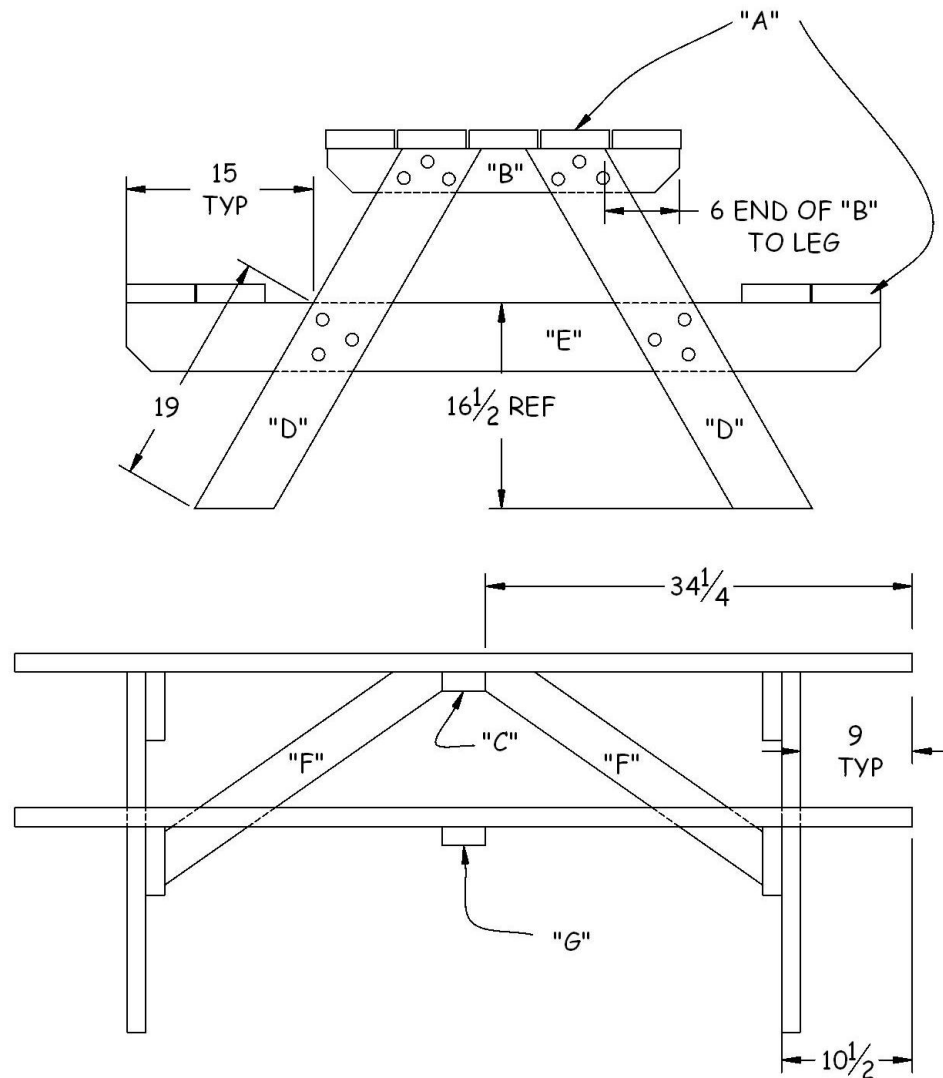

Figure 24-2. Picnic Table Assembly.
4. To build one leg assembly, place one Component “B” and one Component “E” parallel to each other on a flat surface. Lay a pair of legs (Component “D”) on top of the first two components so they approximate the arrangement in Figure 24-2. Place scrap 2x support blocks under the four intersection points.
5. Position the legs so they are inside the 6” marks on Component “B” and the cut angles of the legs are flush with the top of Component “B” (see Figure 24-2). Drill three 11/32” holes through each Component “D” into Component “B” at least 1” from the edges (to avoid component failure). Insert one 3½” carriage bolt into each of the six holes (to anchor the three pieces into position).
3. Drill two ⅛” pilot holes through the seat into each bench support, about 1” in from each edge of the seat. Attach the seat to the bench supports using 2½” deck screws at each anchor point (see Figure 24-2).
1. Position the tabletop pieces (Component "A") centered on top the bench leg assemblies so that each end of a tabletop piece is 9" from the outside face of its associated Component "D". Space the pieces $\frac{1}{8}$ " apart (use 8d nails) so the gaps between the boards are equal and the table top is evenly distributed across the top of the Component "B" pieces (see Figure 24-2).
4. Attach two angle supports (Component "F") in the center of the table with two $2\frac{1}{2}$ " screws at each end, confirming the legs remain square to the table top. Make sure the double-notched end is positioned up and located in the center of the table. See Figure 24-2 for proper location of pieces.